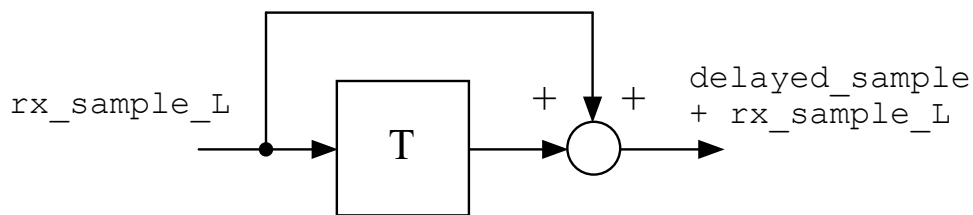

Figure 6: Block diagram representation of program `stm32f7_delay_intr.c`
2. Study the program listing in `stm32f7_echo_intr.c` and, with reference to Figure 6, draw a block diagram of the system it implements in the space provided below. In the space below that, sketch what you think its response to a unit impulse at time $t = 0$ would be (with a `GAIN` of 0.6 and a `DELAY_BUF_SIZE` size of 2000 samples).